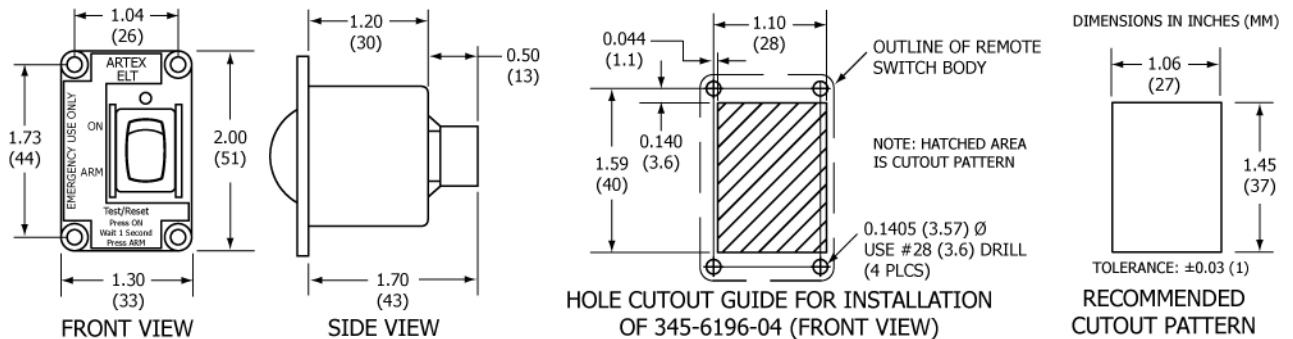

Figure 19 Remote Switch Outline and Dimensions
- 3) The switch assembly requires a space approximately 2.0 x 1.3 in. (51 x 33 mm) on the panel surface and behind the panel. See Figure 19 Remote Switch Outline and Dimensions.